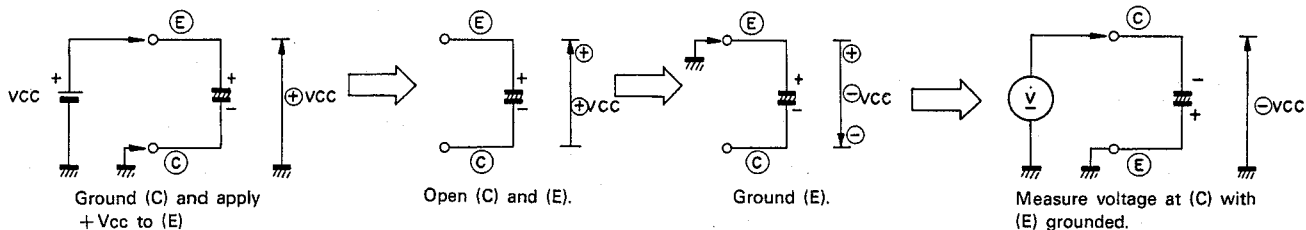

Fig. 5 Operation of C61 and C62
Since Q22 turns on, the voltage at (E) is lowered to about 2V by the voltage drop across R84. Since the potential difference between (C) and (E) is Vcc, the voltage at (C) is $(2 - V_{cc}) \div -V_{cc}$. (Refer to Fig. 5.)